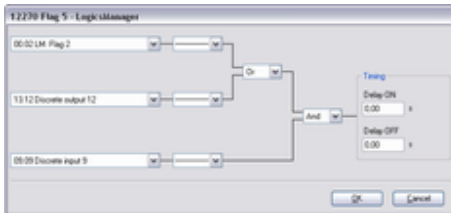

Fig. 216: LogicsManager function "Flag 5"
6. ➤ Configure the LogicsManager function "Flag 5" as shown in (Fig. 216).